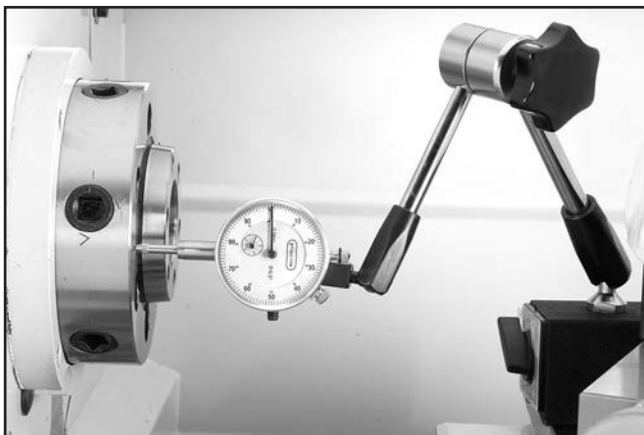

Figure 137. Dial indicator setup.
7. Place dial indicator on cross slide and move carriage toward headstock until contact point of indicator touches spindle face (see **Figure 137**).